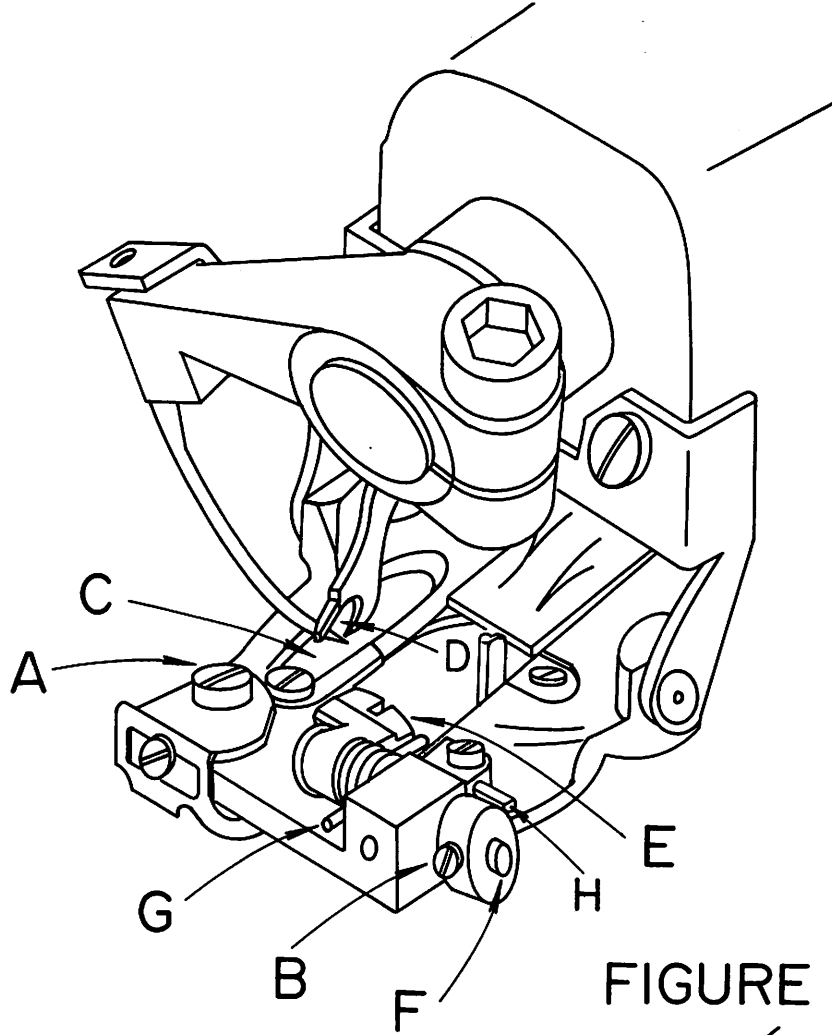

FIGURE 8
6. Once the looper is timed with respect to the needle as outlined in paragraphs 2 thru 5 above, slowly turn the handwheel in a direction away from the operator, until the looper approaches the edge of the looper slot. (Point "C" in Figure 8) in the presserfoot. At this point make sure the small prong of the looper clears this edge. If it does not clear, adjust the eccentric block as outlined in paragraph 5 until the interference is eliminated.
7. Continue turning the handwheel away from the operator until the point of the needle starts to enter the area in between the looper prongs. (Refer to Point "D" in Figure 8). If the needle strikes the crotch of the looper, the looper has generally been set too far forward. Check to see if the looper has been inserted into the clamp as far as it will go. It should be inserted until the shoulder on the looper is stopped on the clamp. If this check is satisfactory, recheck the distance from the center of the looper rod fork pin to the rear face of the looper rod ball. Refer to paragraph 4 and reset if necessary. If neither of the above two measures corrects the problem, it is possible that the needle lever may be set too low and required adjustment.
1. The shoe, (item "E" in Figure 8), also known as a cloth retainer, normally will not require replacement. However, in the event of wear due to the particular fabrics being used, or if the shoe or spring suffers any damage, they may be readily replaced.
2. The first step is to remove the complete front guide assembly by unscrewing the front guide holder attaching screw (item "A" in Figure 8). Next loosen the shoe pin and the shoe eccentric barrel lock screws, (item "B" Figure 8), and slide out the shoe pin (item "F"), shoe and retaining spring (item "G"). Before removing these components it is advisable to note the manner in which the spring is assembled so that it may be reinstalled in the same way.
3. When replacing an old shoe, make sure that the replacement shoe properly fits the pin without binding and without excessive looseness. In the event that the pin has worn and does not fit the new shoe properly, it should be replaced at the same time as the shoe-pin. After replacing the shoe, shoe pin spring into shoe eccentric barrel, re-tighten screws (item "B" Figure 8), and check to insure that the center of the shoe is lined up with the center of the rib. Also insure that the shoe clears both sides of the opening of the presserfoot.
4. In and out position of shoe should now be checked. For light fabrics, shoe should be as close to needle as possible. For heavy fabrics with seam, shoe should be set back as far as possible from needle. To move shoe in and out turn eccentric barrel (item "I" Figure 8). After the correct location is established, be sure to tighten screws, (item "B" Figure 8).
- 4A. An additional shoe adjustment is also possible. The height of the shoe can now be controlled, (item "H" in Figure 8). This is a tapered pin and position can be adjusted so that the shoe, whenever required, can be controlled as far as elevation is concerned. By moving the tapered pin in or out the shoe can be kept from pressing down on some fabrics which require little, if any shoe pressure. By having this control, it sometimes will aid in penetration of difficult fabrics. The normal position of the shoe, when set properly on most fabrics, is that the shoe will show movement on the penetration cycle on one ply of fabric.